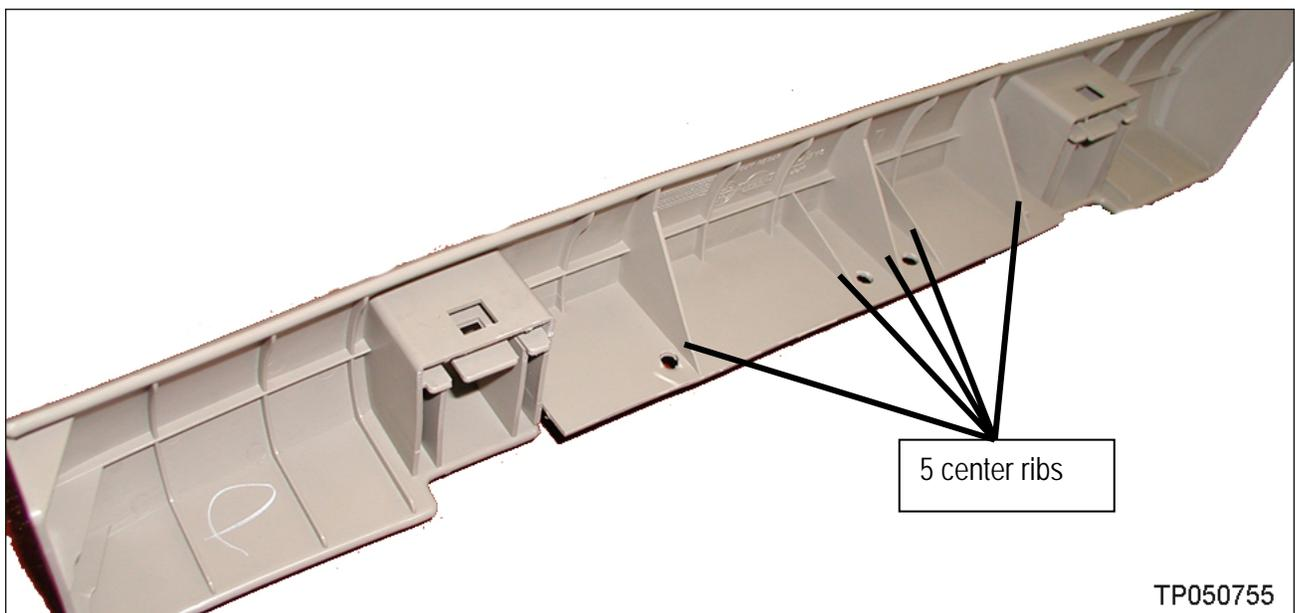

Figure 8
14. On the back side of the finisher, cut approximately 20 mm ($\frac{3}{4}$ inch) off of the 5 center ribs (see Figures 8, 9, and 10).